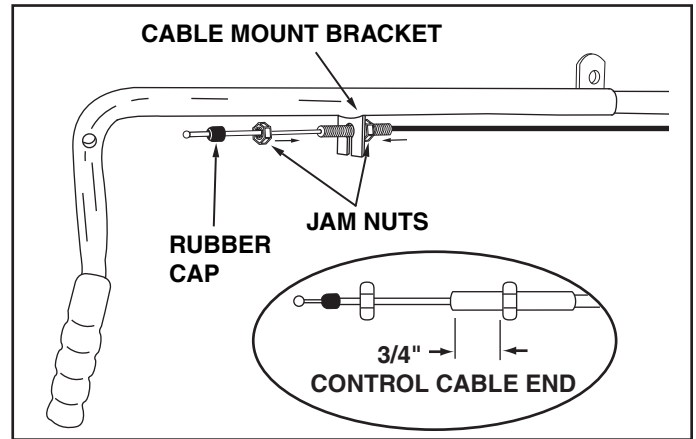

**FIGURE 23 (Left Hand Side View)**
**STEP 9: (SEE FIGURE 23)**
- Remove the hairpin cotter which fastens the lift handle rod to the lift link pin. See figure 23, page 12.